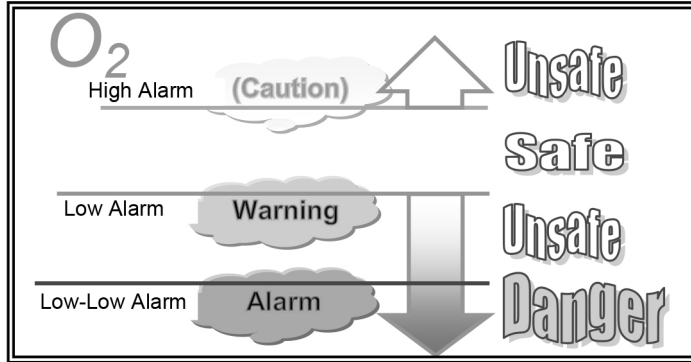

Figure 57: Oxygen deficiency alarms
- Caution is a high alarm set to 23%. Figure 57 depicts the relationships of these alarms.